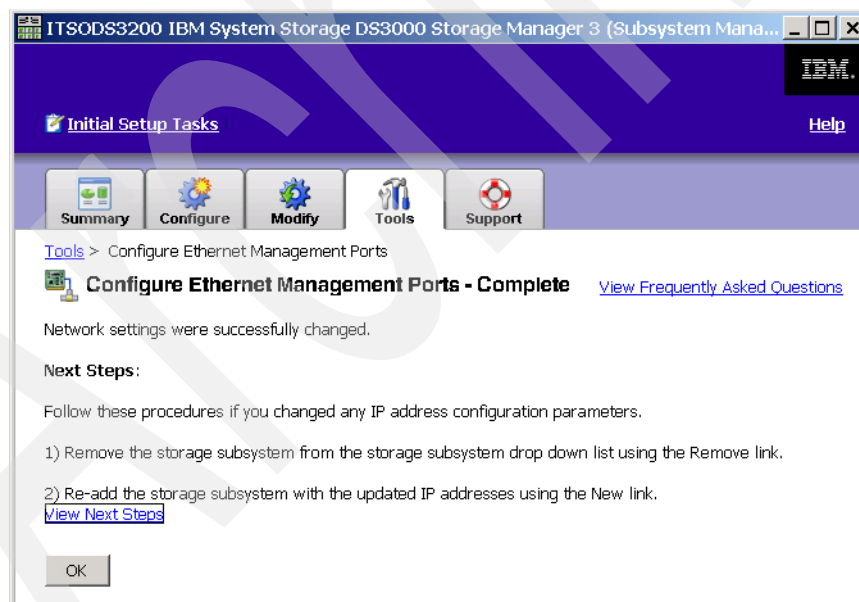

Figure 12-30 Change network configuration - complete
7. Now the changes are submitted to the controllers. Storage Manager displays these changes when the changes are completed and reminds you again to re-add your subsystem to the enterprise view (Figure 12-30). We explain how to do this in “Add Storage Subsystem to view” on page 127.